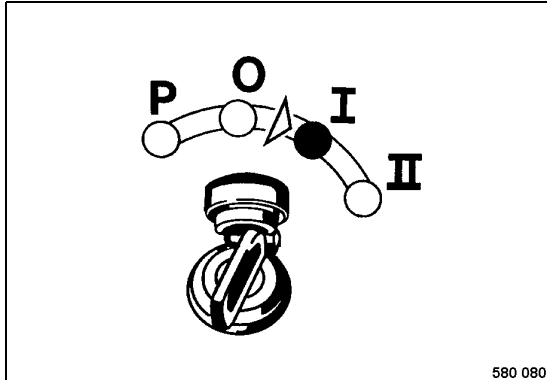

Fig. 83
- Turn the ignition key to position "I" (Fig. 83).